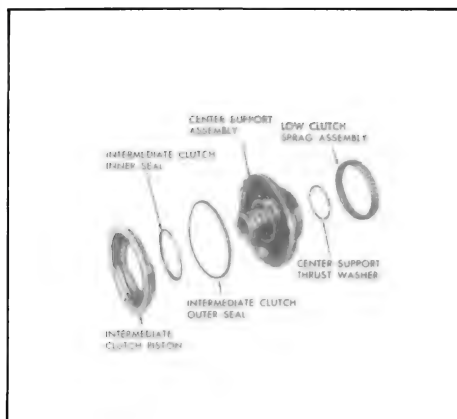

Figure 5-652
1. Inspect the sprag inner race for scratches or indentations. Be sure the lubrication hole is open. See Figure 5-652.